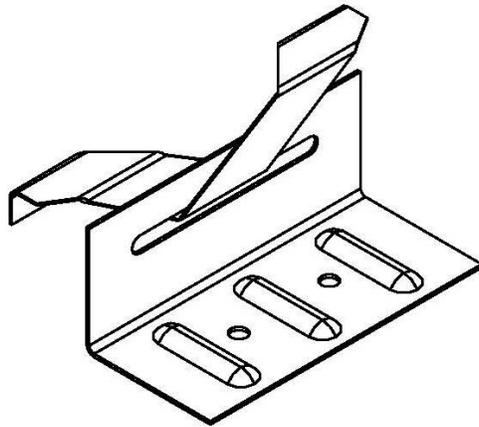

Figure 3. CM 200S Continuous Butterfly Clip (10 ft. Lengths)
- **CM Continuous Butterfly Clip (table 2):** The panels are secured to the deck with CM 200S continuous butterfly clips. Refer to Figure 3 for an illustration of the continuous butterfly clip. The butterfly clips consist of a "base" and a "butterfly." The "base" is 18 gauge L-shaped galvanized steel that is 2" wide, 1-3/4" high, and comes in 10' long sections. (Note: The base shall be installed continuously along the length of the panel only in those areas where the design pressures in Table 2 are required. In other locations, the panel clip method required for Table 1 design pressures may be used.). The base has a 1/4" wide by 3" long slots located 1/2" from the top for the "butterfly." The "butterfly" is 22 gauge galvanized steel that is 5.045" long by 0.929" tall with two return flaps. The "butterfly" is used to secure the metal roofing panel to the "base." The "butterfly" is secured to the panels and to the continuous base at 3" from each end and 12 inches on center. The CM 200S continuous butterfly clip is secured to the roof deck with two minimum No. 10 x 1" long Hex head self-drilling screws located 3" from each end and 12" on center. The fasteners shall be long enough to ensure a minimum penetration of 3 pitches of thread below the steel deck. The female rib of the panel is placed over the male/clip assembly and seamed 180 degrees.